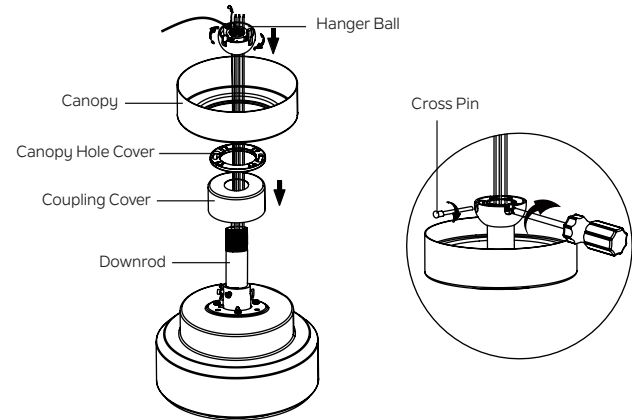

Fig. 9
Step 5. Slip the coupling cover, canopy hole cover and canopy onto the downrod. Carefully reinstall the hanger ball onto the downrod. Make sure the cross pin is in the correct position and the set screw is tight and the wires are not twisted. (Fig. 9)